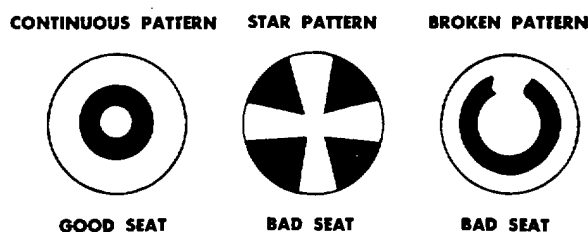

Fig. 6-1-20, F60108. Seat pattern of plunger in cup
2. Inspect cup for plunger seat pattern. If plunger seat covers 40 percent continuous area around cup cone or plunger bore, it is possible cup may be reused, but it must pass the ST-990 cup-to-plunger leak test. Seat location is not important. Fig. 6-1-20.